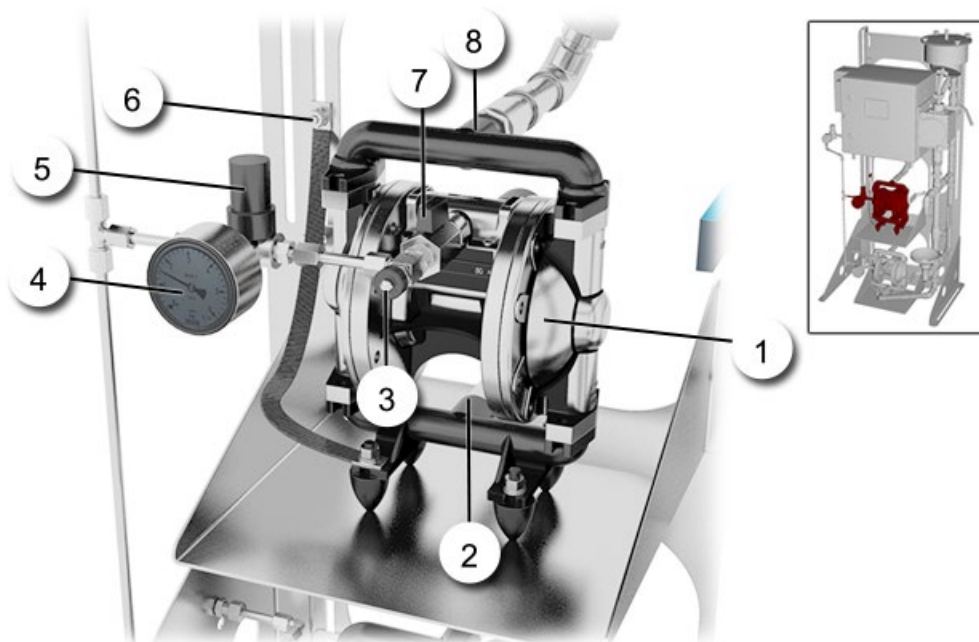

Figure 4: Sample feed pump
4.	Mount the pump inlet pipe between the pump outlet (Figure 4, pos. 8) and the inlet on the sample preparation system.
5.	Connect the sample feed to the pump inlet (Figure 4. pos. 2) (provided by the customer). The pump inlet nozzle is provided with an internal thread 1/2 "NPT (arrow).
6.	Attach the earth (Figure 4, pos. 6) to the pump. The earth is fixed to the stand on one side and on the foot of the pump on the other.